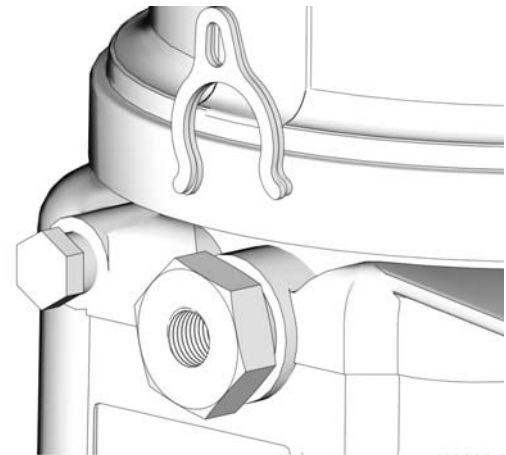

FIG. 21
Pump volume control is set using either no (0) spacers, 1 or 2 spacers (FIG. 21).